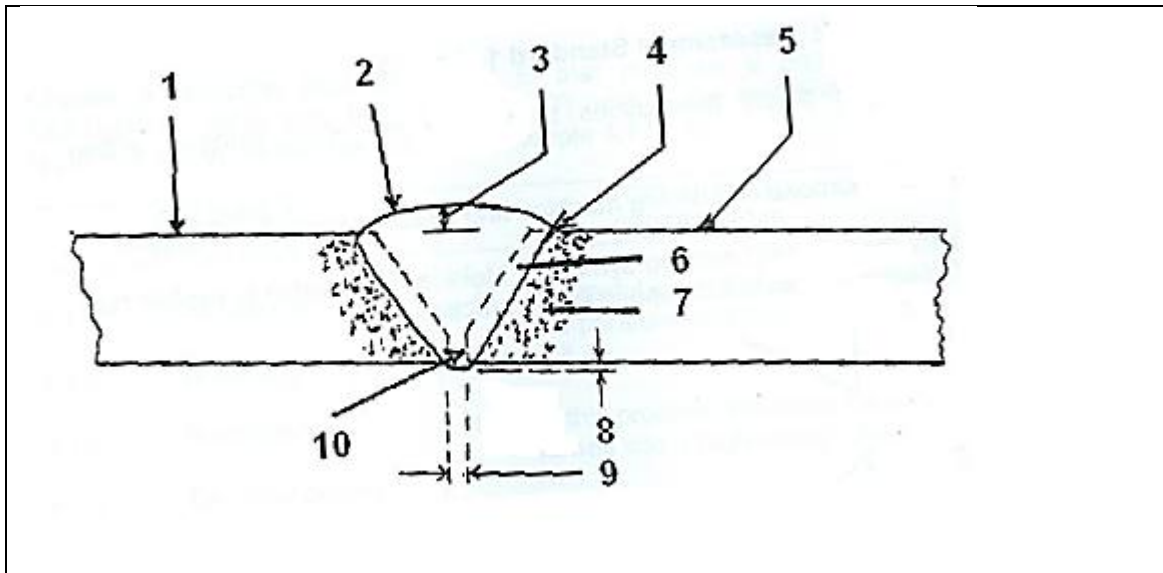

FIGURE 6.2
FIGURE 6.2 above shows a sectional view of an arc welded joint. Label the parts numbered 1-10. (10)